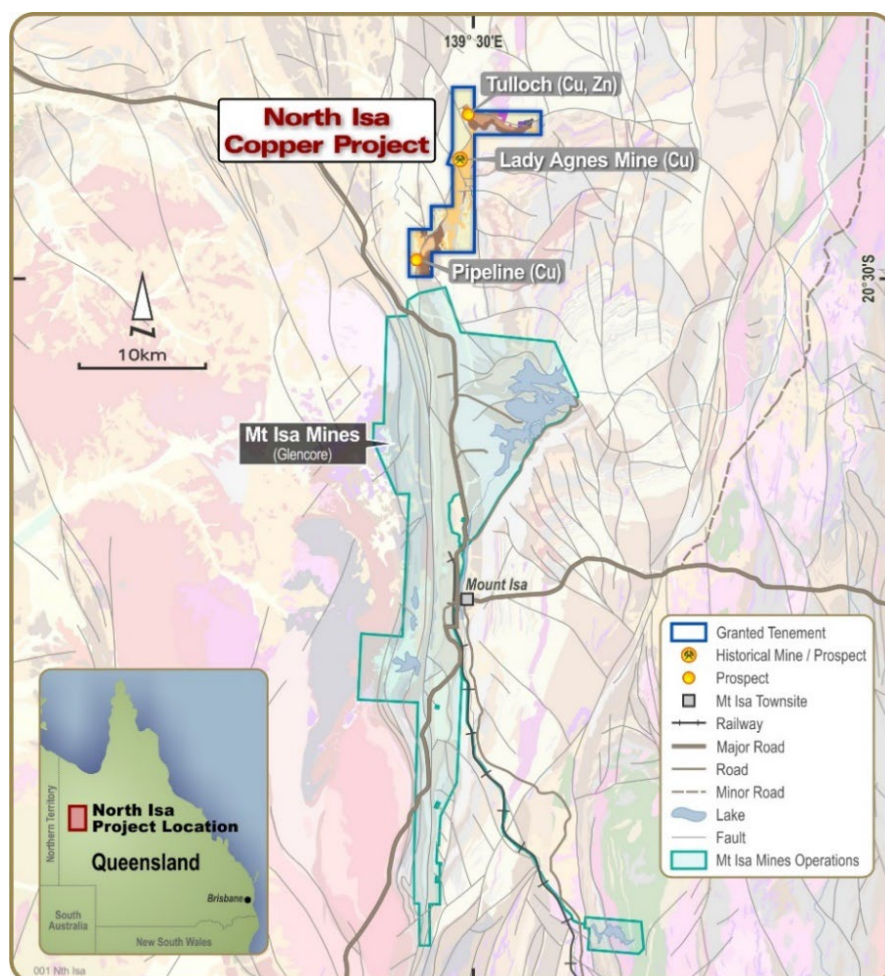

Figure 1: Lady Agnes Permit and Prospect Location Map
Renegade Exploration Limited (ASX:RNX) is pleased to advise it has completed the initial RC drilling program (five drill-holes for 1,234m) to test oxide and sulphide target zones at the Lady Agnes Prospect within its prime North Isa Project (Figure 1) – circa 35km from Mt Isa.
To re-cap, the RC campaign was designed to test two overarching targets: 1) the extent of the copper oxide mineralisation; and 2) a historical induced polarisation (IP) anomaly which includes drilling the untested upper limits of the IP signature (refer Figure 1 above).